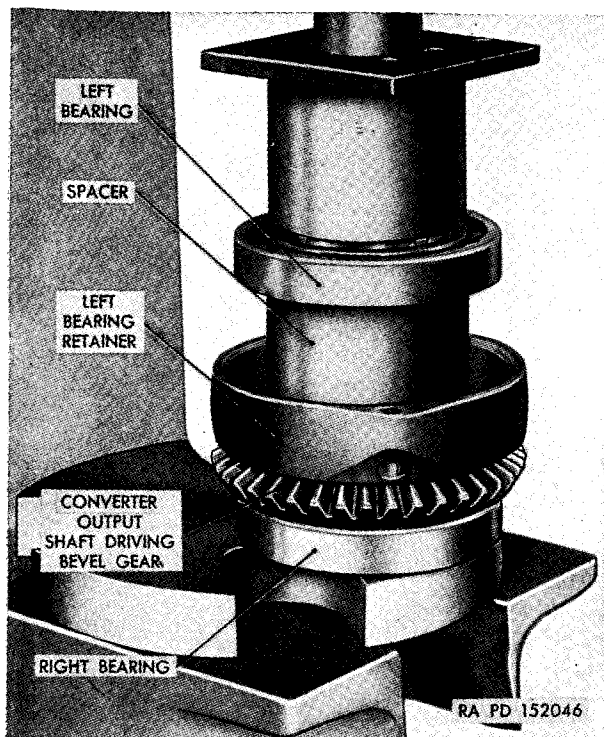

Figure 307. Installing converter-driving-bevel-gear left bearing.
- (4) Install the bevel gear with its thrust face against the flange on the shaft. Install the spacer and the retainer with the bearing bore away from the gear. Install the left bearing, using an arbor press (fig. 307). Install the tabbed lock washer and lock nut using spanner wrench (41-W-640-320). Torque the nut to 400 pound-feet minimum and bend the lock washer tab over to secure the nut.